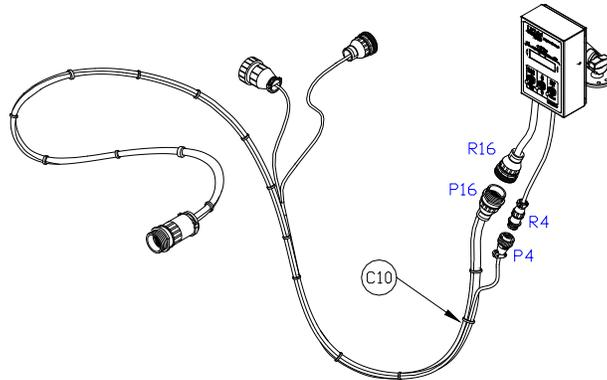
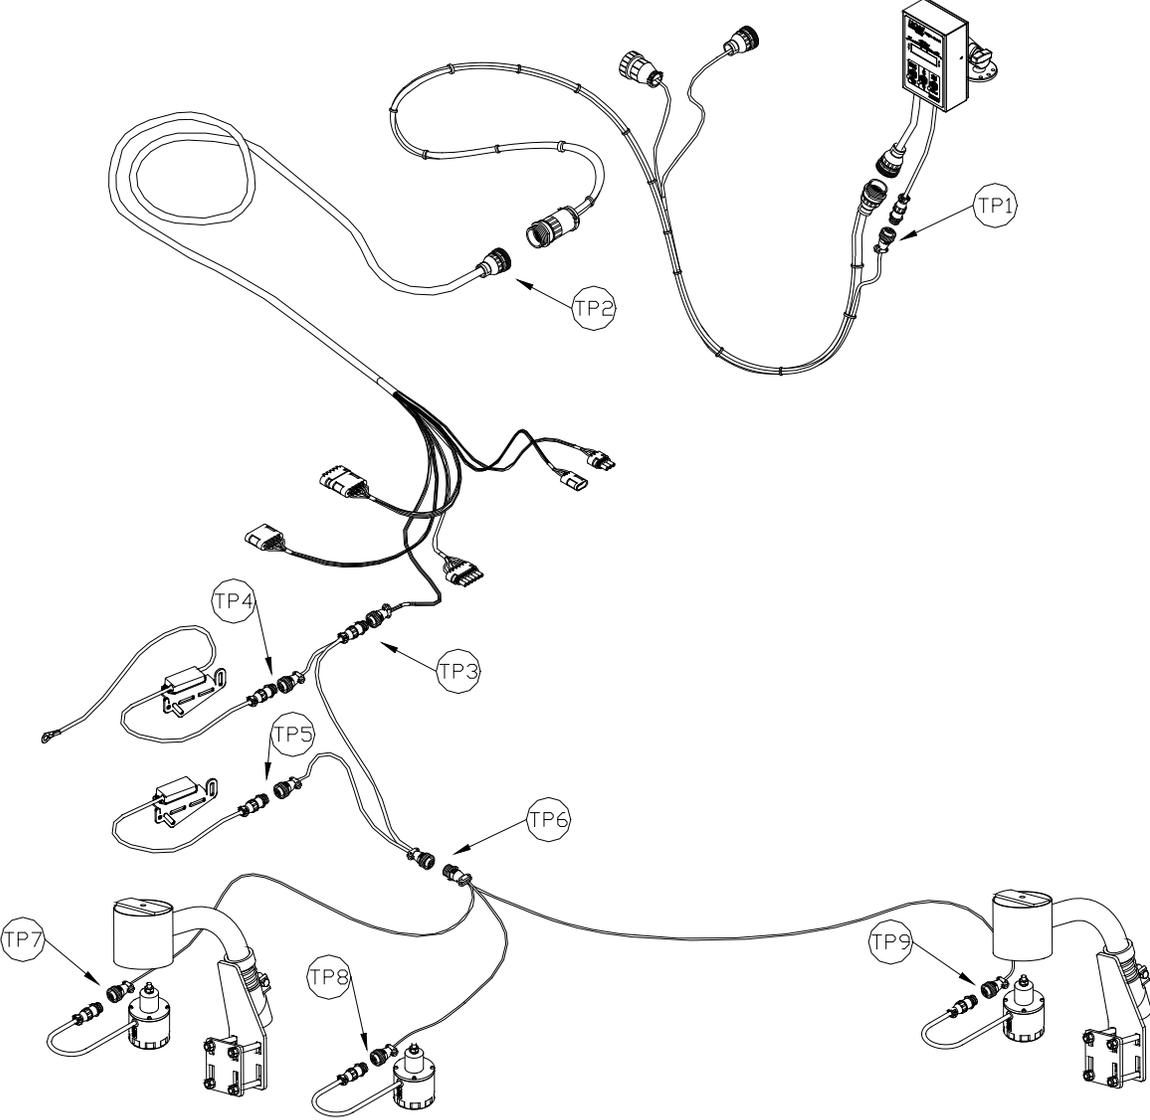

Figure 3: Typical Control Panel Installation
Figure 8: Test Point (TP) Examples
3. There are two connectors on the UC4+™ Control Panel. The 4-pin Amp connector (P4) is the CANbus. Disconnect “P4” from the Control Panel. (**Figure 3**).
4. Using an ohm meter, test the resistance of every pin combination on connector P4 as shown in **Figure 3** and Test Point I (TPI) **Figure 8**. The pin numbers are labeled inside the connector. The following table lists the values for each pin combination.
5. If you measured differently than the values in **Figure 4**, continue by testing at the next connection towards the rear of the sprayer (Test Point 2, 3, 4, etc - **Figure 8**) until you isolate the problem cable.
3. Reconnect the 4-pin Amp connector (P4) to the Control Panel. (**Figure 3**).
4. Using a voltmeter, measure the voltage of the following pin combinations at each of the sensor connections (Test Point 4, 5, 7, 8 and 9 - **Figure 8**).
5. If you measured differently than the values in **Figure 5**, continue by testing at the next connection towards the front of the sprayer (Test Point 6, 3, 2, 1 etc - **Figure 8**) until you isolate the problem cable.
Figure 8 shows a typical system layout with test points labeled for troubleshooting as described earlier in this section. Please refer to the installation manual for your sprayer type for your exact system layout.